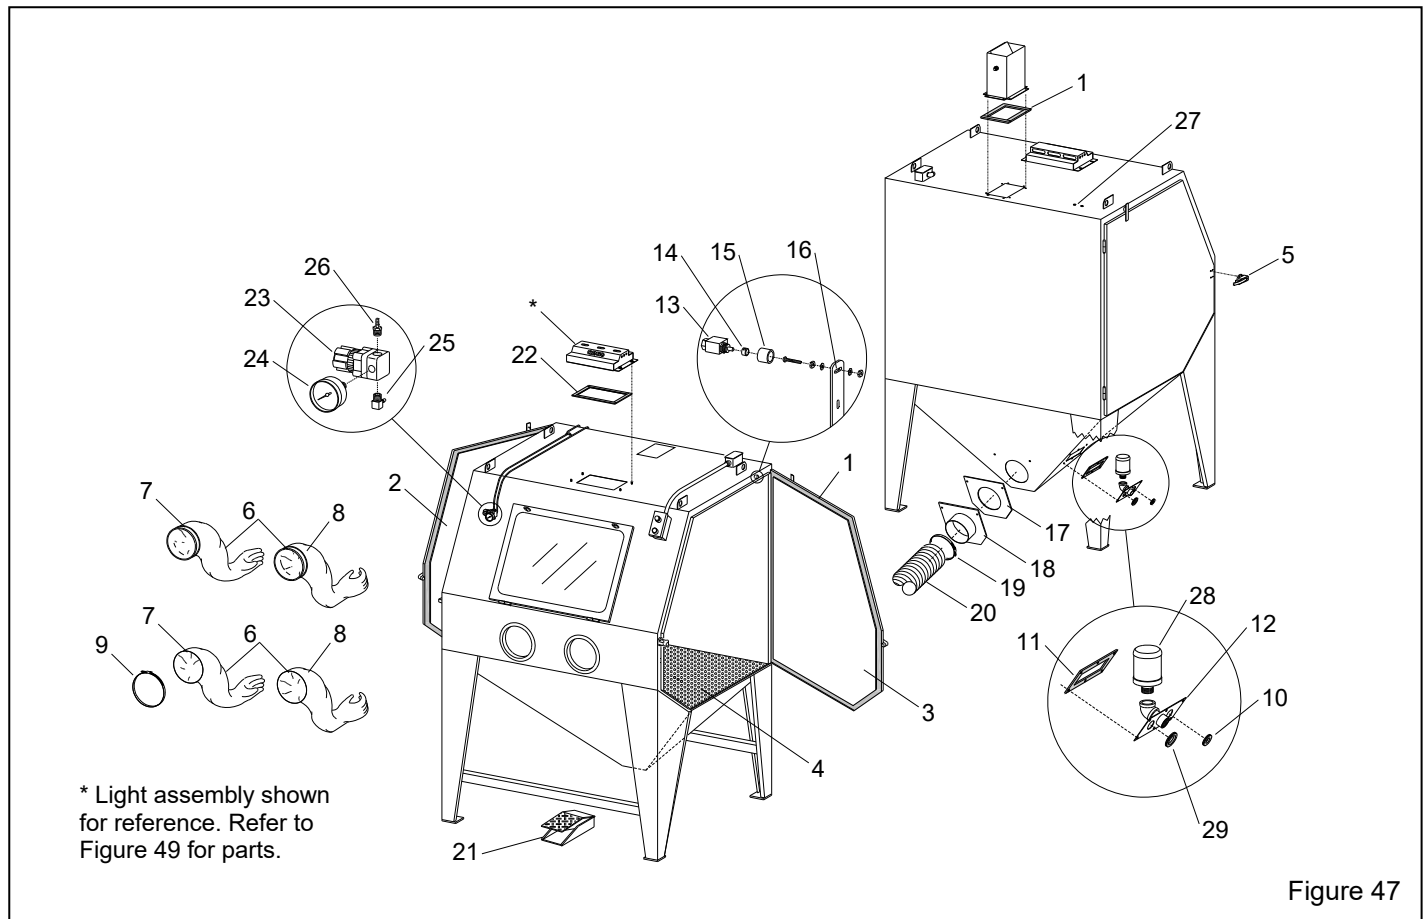

Figure 47
9.2 Cabinet Assembly – Figure 47